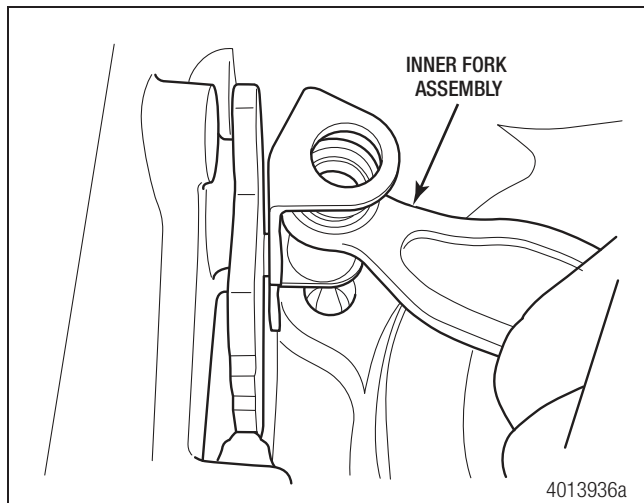
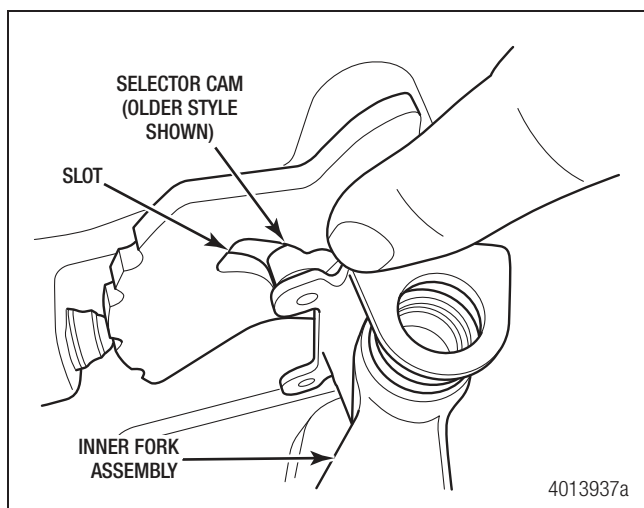

Figure 7.11
Figure 7.12
5. Install the inner fork assembly on the bracket, making sure the selector cam is seated in the slot on the shift plate. Figure 7.11 and Figure 7.12.